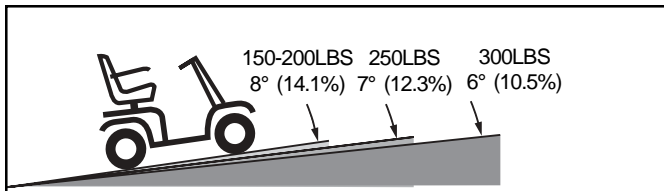

Figure 1. 3-wheel Maximum Recommended Incline Angles
**WARNING!** Even though your scooter is capable of climbing slopes greater than those illustrated in figures 1, 1A, and 1B do not, under any circumstances, exceed the incline guidelines or any other specifications presented in this manual. Doing so could cause instability in your scooter, resulting in personal injury and/or damage to your scooter.
Handicap public access ramps are not subject to government regulation in all countries, and therefore do not necessarily share the same standard percent of slope. Other inclines may be natural or, if man-made, not designed specifically for scooters. Figures 1, 1A and 1B illustrate your scooter's stability and its ability to climb grades under various weight loads and under controlled testing conditions.
**WARNING!** Any attempt to climb or descend a slope steeper than what is shown in figures 1, 1A, and 1B may put your scooter in an unstable position and cause it to tip, resulting in personal injury.